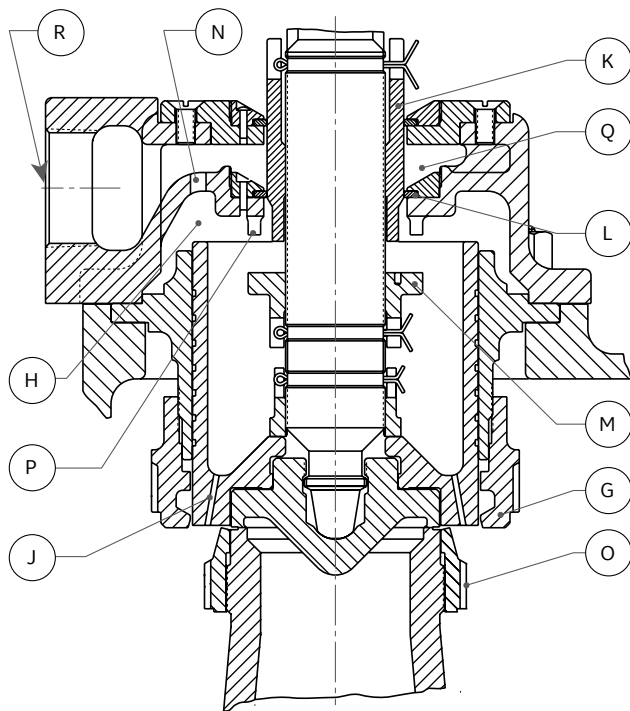
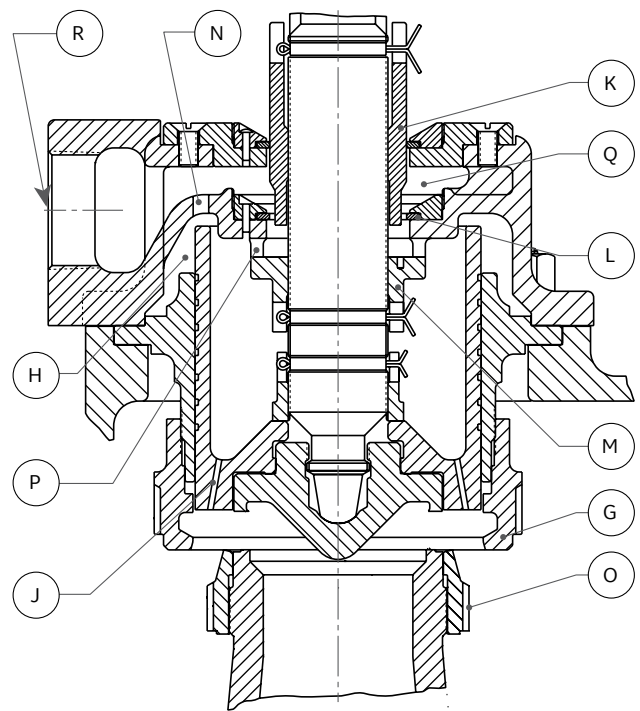

Figure 6: 100% Lift
Figure 7: Full Lift
In Figure 6, 100% lift is attained by proper location of the upper and lower adjusting rings (G) and (O), respectively. When full lift is attained, as in Figure 7, lift stop (M) rests against coverplate (P) to eliminate lift hunting, thus adding stability to the valve. When the valve discharges in an open position, steam is